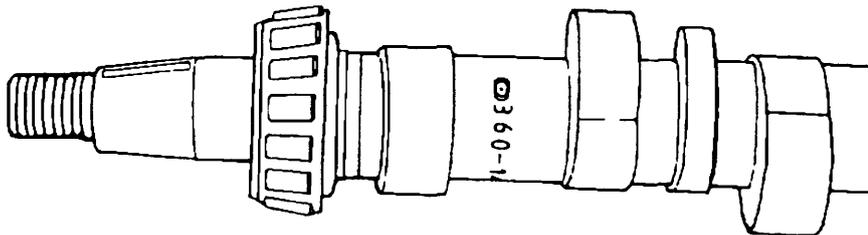

Figure 80 Camshaft Identification Number Location
- s. Install the spacers and shims onto the camshaft. Using a suitable arbor and press, press the bearings onto the camshaft with the tapers facing toward the ends of the camshaft, ensuring that the bearings butt firmly against the shims (Figure 80).
- t. Lubricate the bearings and camshaft lobes with clean engine oil and insert the camshaft into the injection pump housing bore with the identification code on the camshaft toward the front of the injection pump (Figure 80).